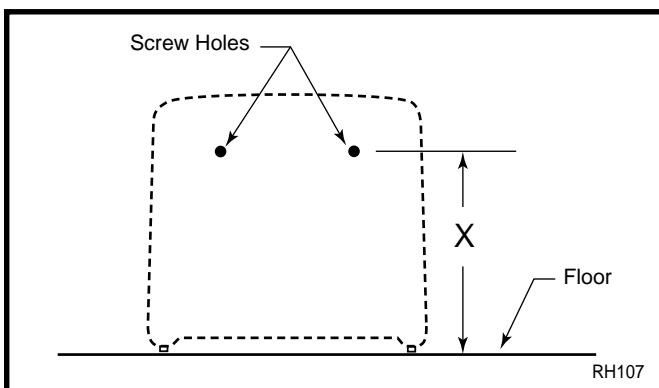

Fig. 5 Optional wall mounting screws for floor installation.
2. Measure heater mounting screw location "X" as desired above floor. (Fig. 5)